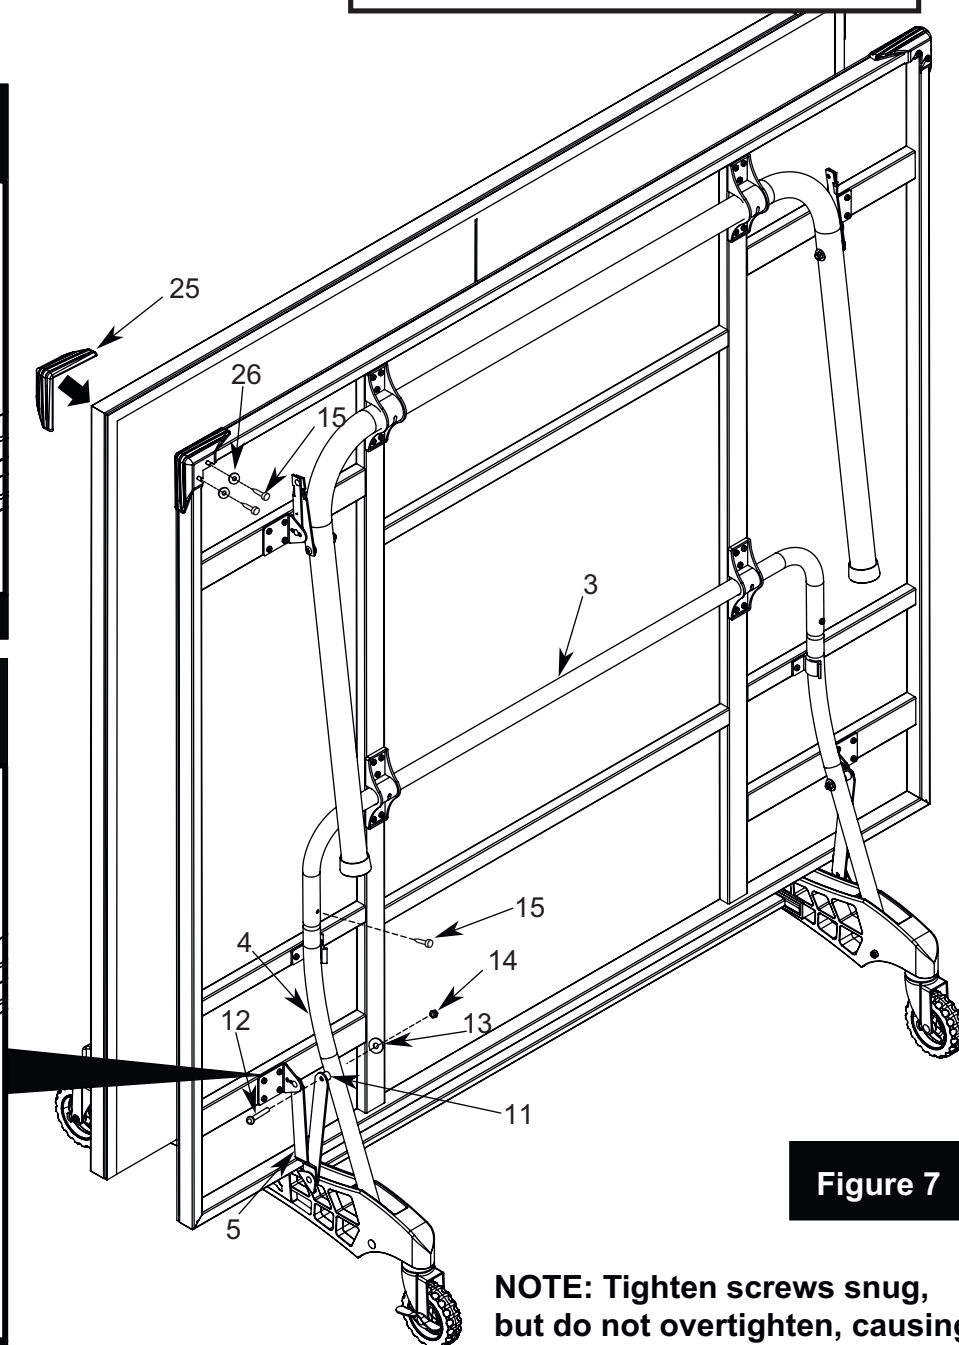

Figure 7
7. Attach U-Support (#3) and Strut Tubes (#4) using two Screws (#15) as shown in **FIGURE 7**.
8. Attach Long Hinge & Mounting Bracket Assemblies (#5) to Strut Tubes (#4) using two Bolts (#12), two Spacers (#11), two Flat Plastic Washers (#13) and two LockNuts (#14) as shown in **FIGURE 7** and **DETAIL F**.
9. Attach two Corner Protectors (#25) to Top Assembly using four Screws (#15) with four Washers (#26) as shown in **FIGURE 7**.